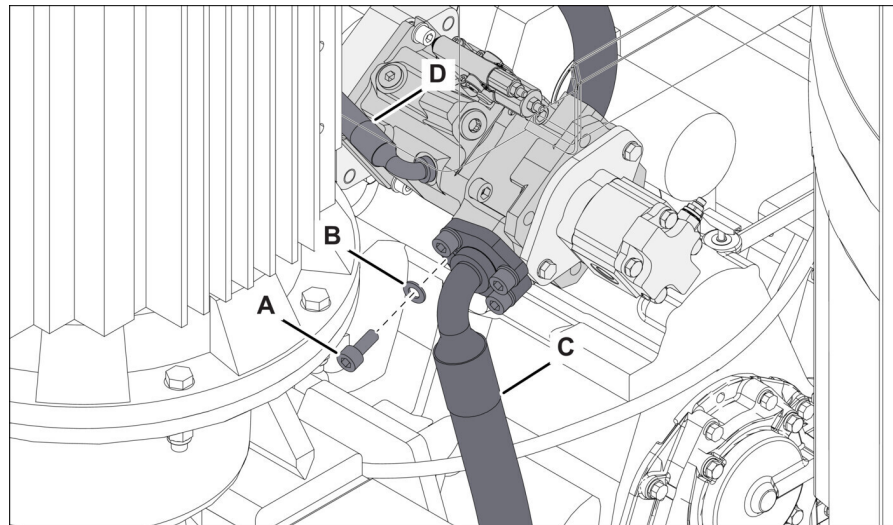

Figure 18
3. Connect the hydraulic hoses (Figure 18, items C and D) to the steering positioning pump.